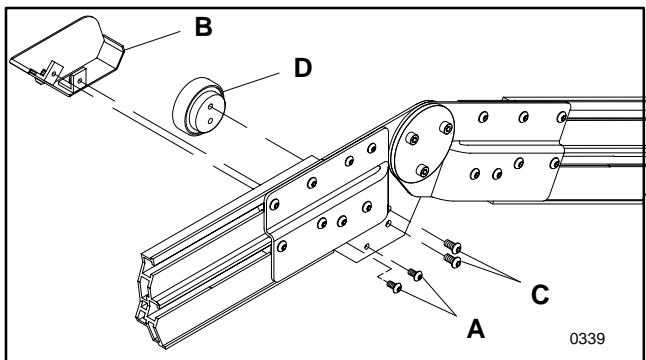

Figure 25: Nose-over Transition Guide Roller Assembly Removal Detail
1. Remove and retain the two (2) guard mounting M5 x 10 mm button head cap screws (A of Figure 25) and detach the guard (B).
2. Remove and retain the two (2) roller assembly mounting M6 x 12 mm button head cap screws (C) and detach the roller assembly (D).